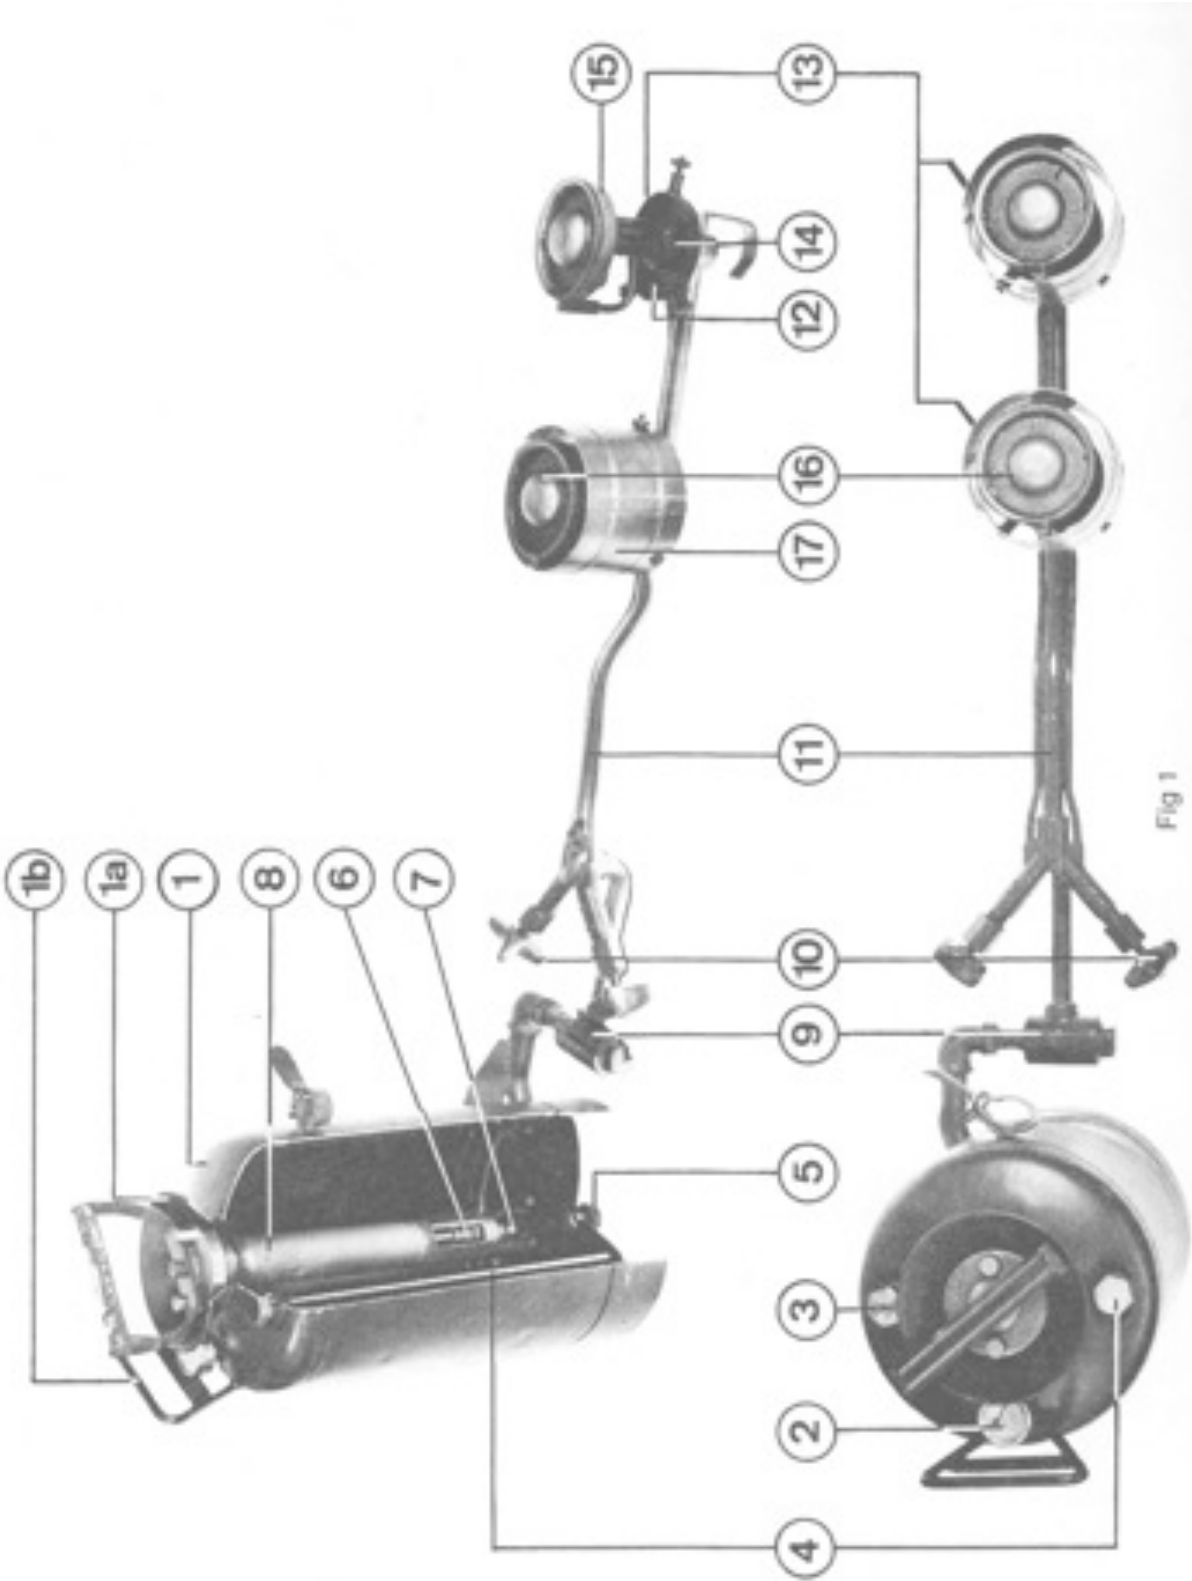

Fig 1
- ⑧ Filter tube
- ⑨ Articulated joint with filter
- ⑩ Fuel valves
- ⑪ Burner fuel feed pipes
- ⑫ Preheating pan
- ⑬ Preheating fuel diverters
- ⑭ Burner coupling nut
- ⑮ Burner elements and jets
- ⑯ Flame distributor plates
- ⑰ Wind shield
14. The **fuel tank** (Fig 1) has a total capacity of 8.5 liters. However, it may only contain a maximum of 6 liters of fuel because part of the tank must be empty to make room for the indispensable air cushion for pressurizing. At the top of the tank is the funnel (Fig. 1, detail 1a). Gasoline poured into the funnel passes through the filter tube before reaching the tank.